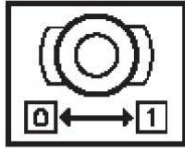
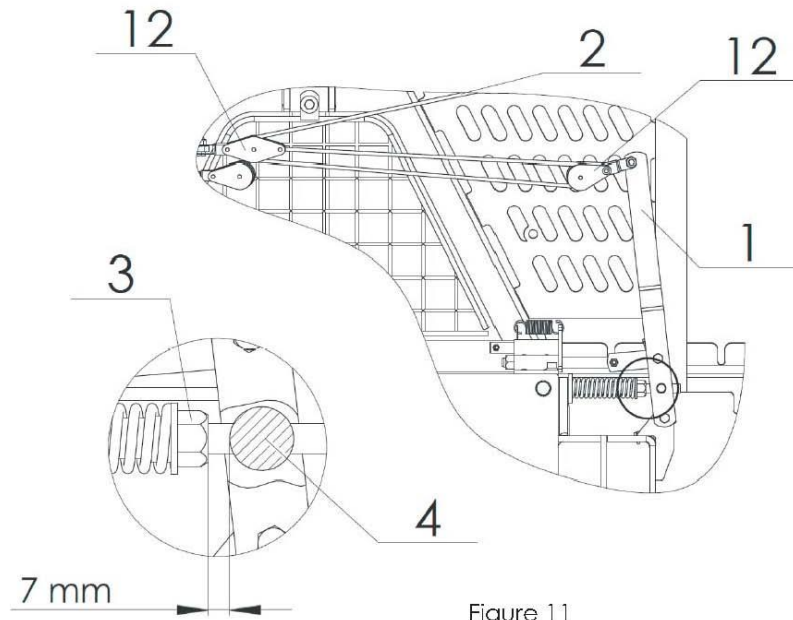

Figure 10
Figure 11
Once the winch is correctly connected, we start to unwind the wire rope. We do this so that we pull the wooden handle on the red rope (pos. 2, figure 11) and in this way move handle 1 in direction OFF (figure 10). Brake is released and the wire rope can be unwound. In case that we just installed the wire rope on the drum or we observe that it is not properly wound, we unwind the entire length of the wire rope and wind it strong, as given in the start of this chapter.
**Any intervention in the engagement mechanism, which would stop synchronous operation of the clutch and the brake, is prohibited. It is also prohibited to pull the red rope of the brake (pos. 2, figure 11) during towing.**
Brake setting is done by a nut (pos. 3, figure 11). Brake handle (pos. 1) is in OFF position (figure 10). Firstly, use a fork wrench to set the nut (pos. 3). Distance between the roller (pos. 4) on the handle and the nut should be approximately 7 mm. If the brake force is not sufficient, repeat the procedure and tighten the nut (pos. 3) again to the right. If the brake is set to excessive force, the unwinding of the rope is made more difficult. Therefore, the nut must be loosened somewhat to the left.